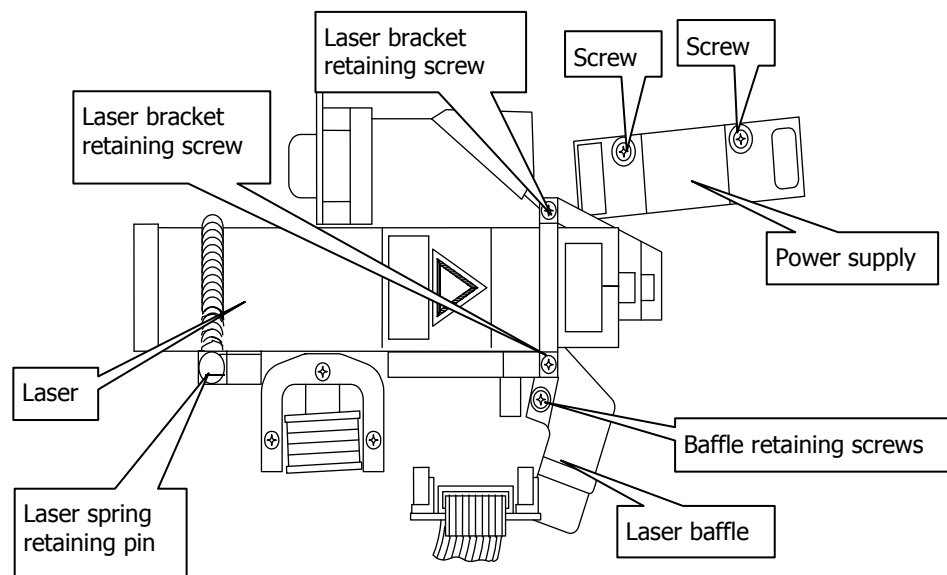

Figure 54 Laser and power supply installation
4. Unhook the spring and remove the two screws on the retaining bracket, as shown in Figure 54.